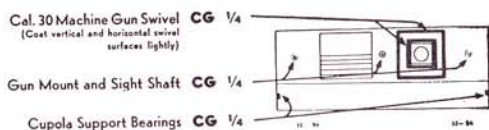

FIGURE 12.—Lubrication instructions for medium tanks M3 and M3A1—Continued.
**15. General.**—Figure 12 shows the various points to be lubricated, the periods of lubrication, and lubricants to be used. In addition to the items on the chart, other moving parts such as door and shield hinges, pistol port covers, door latches, and gun mounting pins must be lubricated at frequent intervals. Oilholes and lubrication fittings are painted red for easy identification.
- (1) Engine *must* be operated for at least 30 minutes when started following a shut-down on diluted oil.
- (2) Engine *must* be shut down *immediately* after dilution.
- (3) Dilution time greater than 250 seconds *must not* be used.
- (4) Dilution button or valve *must not* be used except during dilution period.
18. Lubrication instructions for medium tanks M3 and M3A1.—See figure 12.
FIGURE 12.—Lubrication instructions for medium tanks M3 and M3A1. (Ordnance Department starting serial No. 1 located on name plate inside fighting compartment; SNL G-104.)